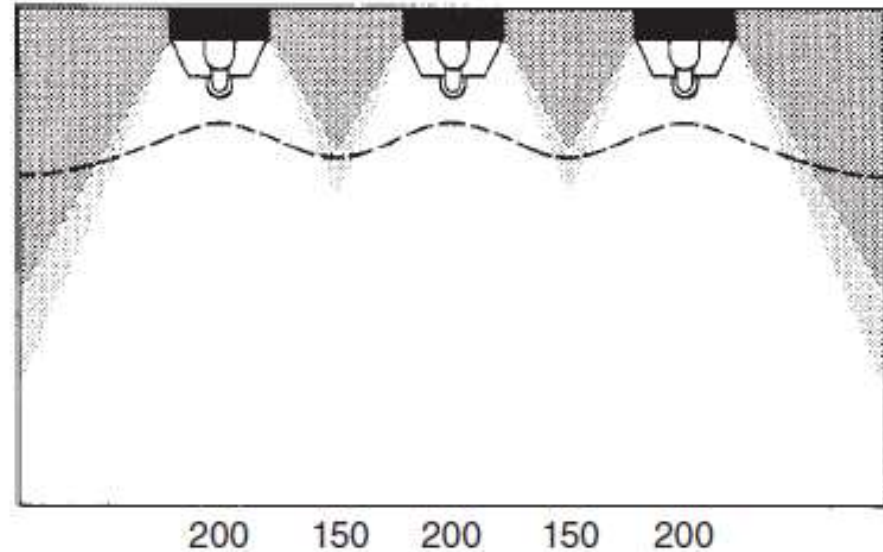

Fig. 15.41 The ratio of maximum to minimum illuminance should not exceed 1.3 in areas requiring uniform illumination.
- S/MH recommendations given by manufacturers are generally based upon a 1.0 illuminance ratio (Fig. 15.41).